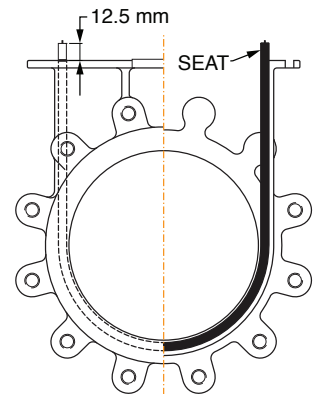

FIGURE 13
- e. Push the seat down until it reaches the bottom of the valve, keeping both ends of the seat extending equally from the top of the valve as shown in figure 13.
- h. Trim the remaining material at the top of the valve body approximately 12.5 mm above the mounting flange per figure 13.